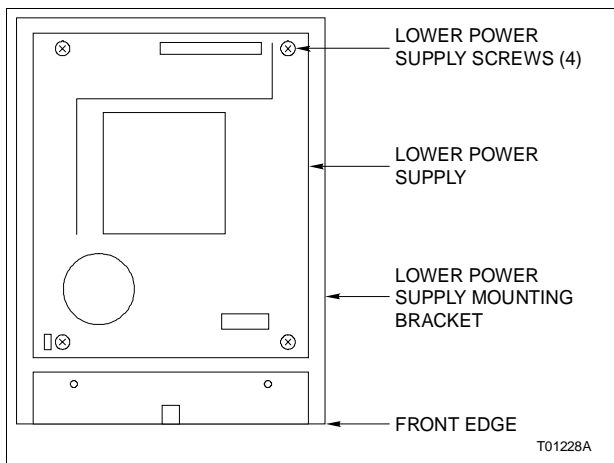

Figure PR57-3. Lower Power Supply Replacement
- 7. Use the Phillips head screwdriver to remove the four lower power supply screws that secure the lower power supply to the lower power supply mounting bracket (Fig. PR57-3).